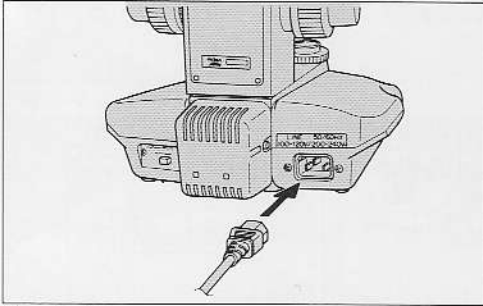

Fig. 2-15
⑪ Connecting the Power Cord
- Insert the socket of the power cord to the AC input connector and plug it into a AC line receptacle (Fig. 2-15).